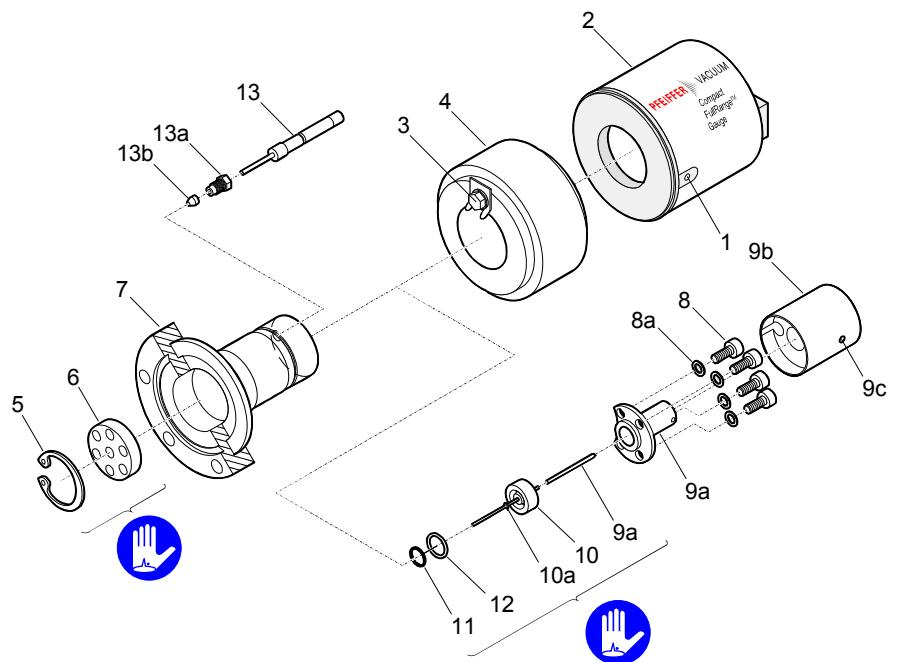

Figure 2:
- 2** Unfasten the hexagon socket set screw (1) on the side of the electronics unit (2) (→ Figure 2).
- 1** Remove the old ignition aid (10a), for example with tweezers (→ Figure 2).
- 1** Slide the screw fitting (13a) and the copper seal (13b) on the tube of the Pirani element (13) (→ Figure 2).
- 2** Insert this combination (13, 13a, 13b) into the corresponding conic bore hole (7) of the measuring chamber.
- 4** Insert a new metal seal (11) incl. the centering ring (12) centered into the measuring chamber (7).
- 5** Carefully insert the anode (10) with the ignition aid (10a) and extension piece (9a) slid onto it into the measuring chamber.
- 6** Carefully place the pressure piece (9) on the measuring chamber.
- 7** Insert the four hexagon socket screws (8) incl. lock washers (8a) and tighten them uniformly until the mechanical stop is reached.
- 8** Carefully slide the insulator (9b) onto the pressure piece (9) and lock it with the hexagon socket set screw (9c).
- 11** Slide the polarity insert (6) into the measuring chamber until the mechanical stop is reached.